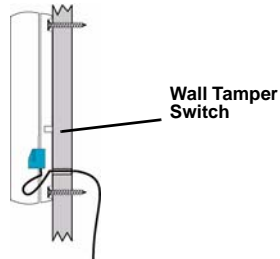

Figure 6 Mount the Transmitter to the Wall
17. Route the external wiring through the wall, as shown in Figure 6.